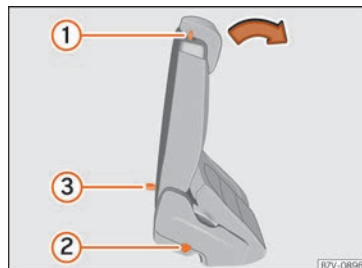

Fig. 137 Second row of seats: access aid controls.
- Push the lever » Fig. 137 ① forwards and fold the backrest of the rear seat. This seat folds forward completely » ⚠ and can still be moved further forward.
- Make sure that the rear seat is securely engaged so that the seat belts can provide proper protection in the rear seats. The red mark » Fig. 137 ② should no longer be visible » ⚠ in **Folding the rear seats down as a cargo surface** on page 144.
- If the lever » Fig. 137 ① does not work, e.g. after an accident, the seats on the second row can be folded forwards from the third row to allow vehicle occupants of the third row of seats to get out of the vehicle » ⚠.
- Pull the handle » Fig. 137 ③ back and fold the backrest of the rear seat. The complete rear seat folds forward » ⚠.
- A red mark on the side of the seat » Fig. 137 ② indicates that the seat backrest is not engaged. The mark is no longer visible when it is correctly engaged.